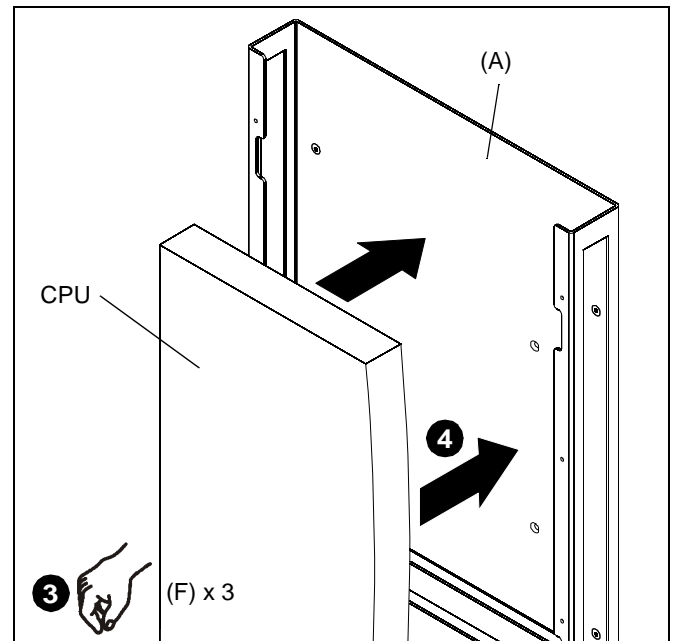

Figure 3
1. Put hook and loop tabs (F) together so there are 3 squares of hook and loop.
3. Attach hook and loop squares to the CPU. (See Figure 3)